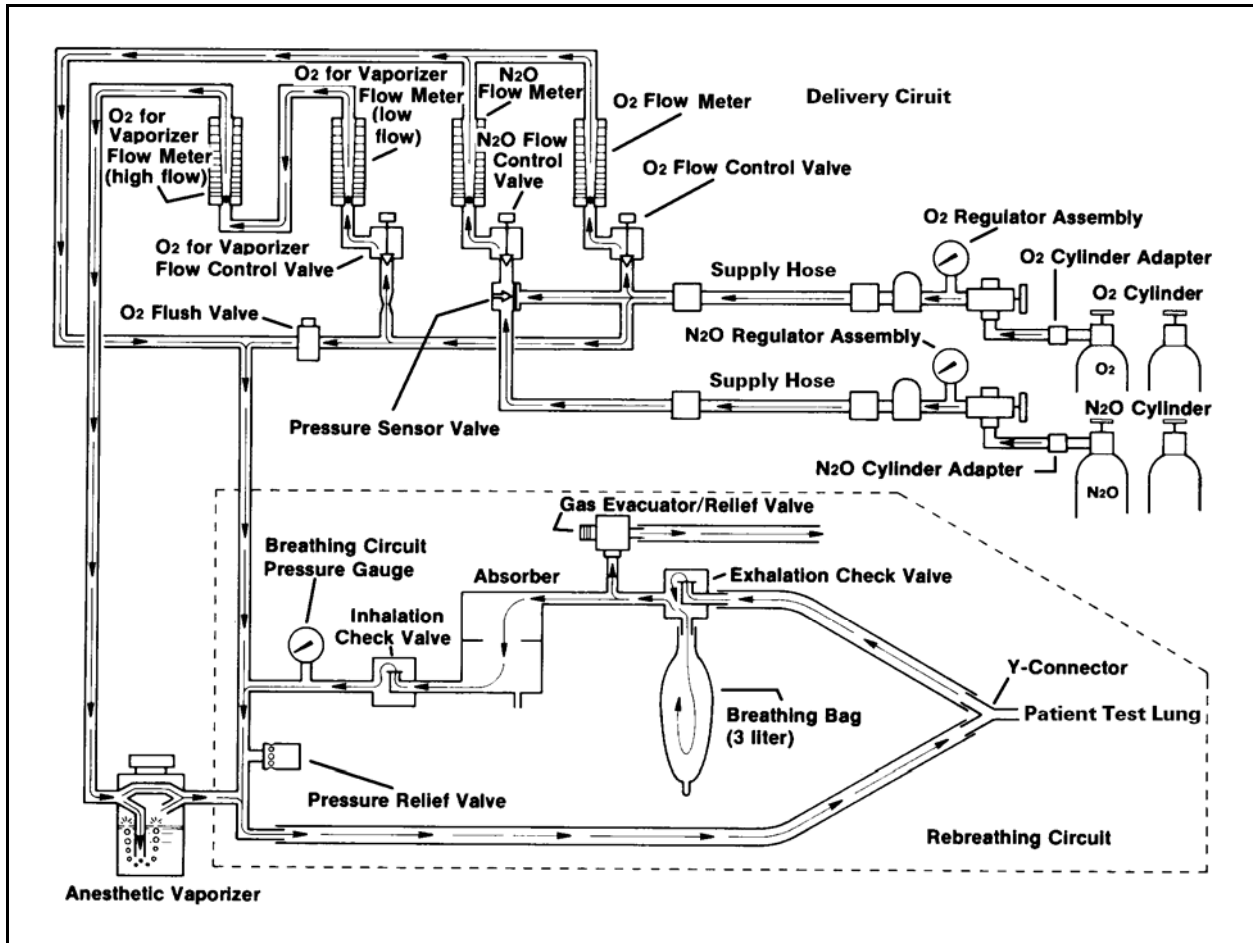
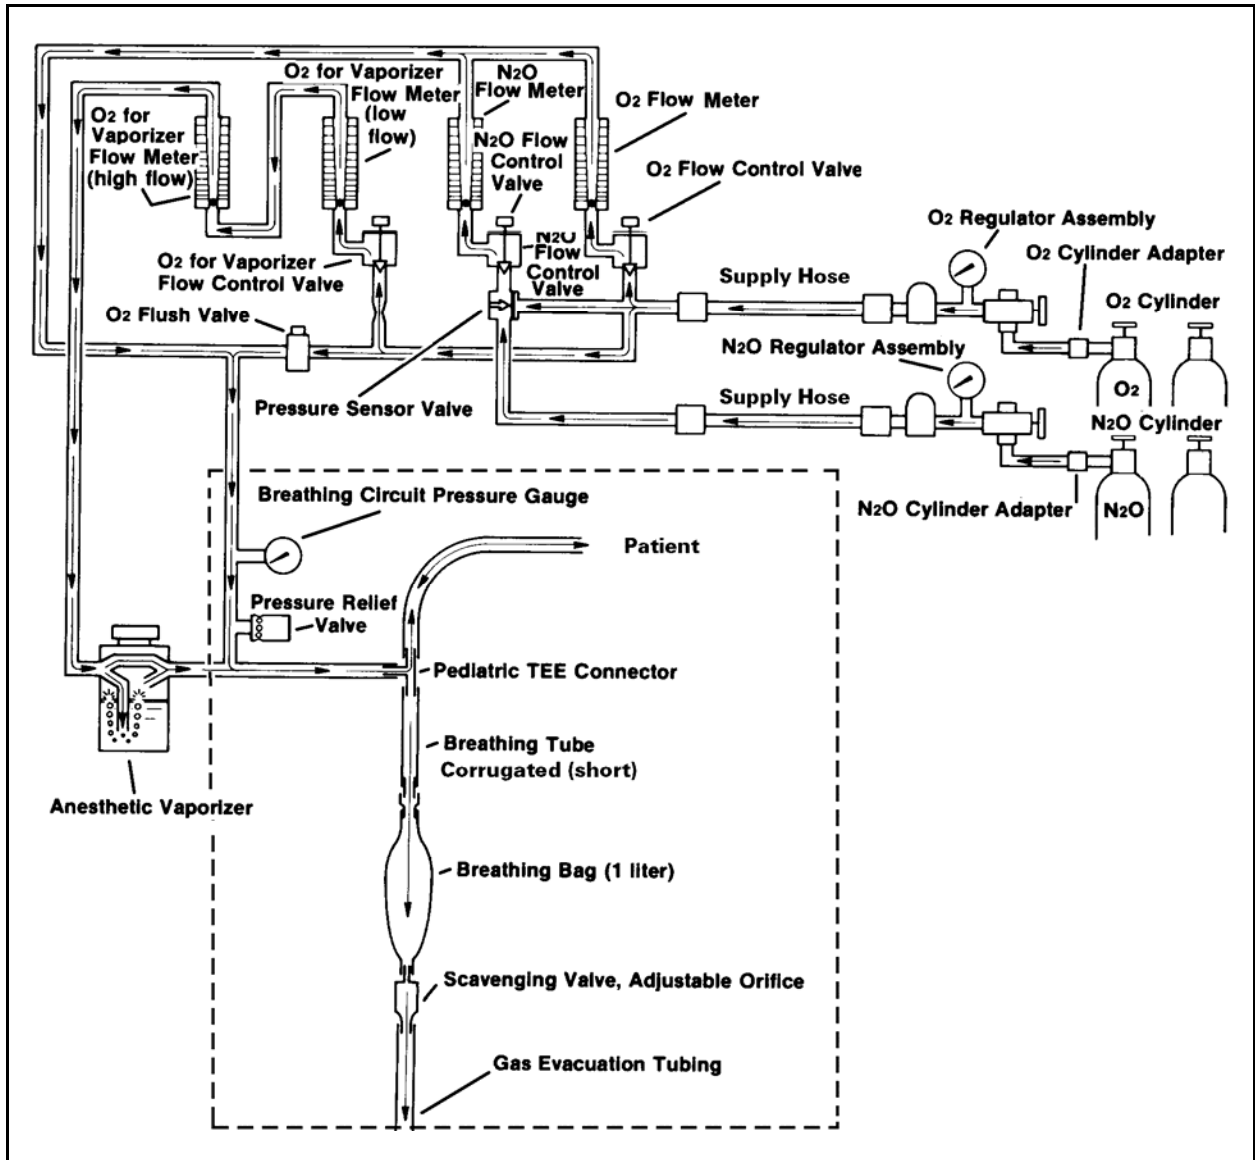

Figure 1-1. Adult re-breathing circuit.
Figure 1-2. Pediatric partial re-breathing circuit.
Refer to figure 1-1, Adult re-breathing circuit, and figure 1-2, Pediatric partial re-breathing circuit, when reading this section. Both these circuits consist of two operational circuits: the delivery circuit and the re-breathing circuit. The delivery circuit is identical for both; however, due to a child's physiology, the re-breathing circuit is different. The delivery circuit uses oxygen (O₂), a life-support gas, and nitrous oxide (N₂O), a temporary general anesthesia. The delivery circuit routes these gases through a series of flow meters, regulators, and valves. This reduces the pressure delivered from the gas cylinders. These monitor the delivery circuit so that the patient's inhalation is not hampered by too much pressure within the system. This is discussed in paragraph "a" below. A pure flow of oxygen picks up additional anesthetic vapors in the vaporizer. It then combines with the oxygen-nitrous oxide flow to achieve the desired ratio of oxygen and anesthetic for the patient. The new mixture flows on to the patient through the closed re-breathing circuit. Both types of re-breathing circuits are discussed in paragraphs b and c below.
(1) Components. The delivery circuit consists of the following items and components:
(2) The flow. Refer to figures 1-1 and 1-2.
b. The Breathing Circuits: Adult Re-breathing Circuit. Refer to figure 1-1.
(1) Adult re-breathing circuit components. The adult re-breathing circuit consists of the following items and components:
(2) Adult re-breathing circuit flow.
c. The Breathing Circuits: Pediatric Partial Re-breathing Circuit. Refer to figure 1-2.
(1) Pediatric partial re-breathing circuit components. The pediatric partial re-breathing circuit consists of the following items and components:
(2) Pediatric partial re-breathing circuit flow.